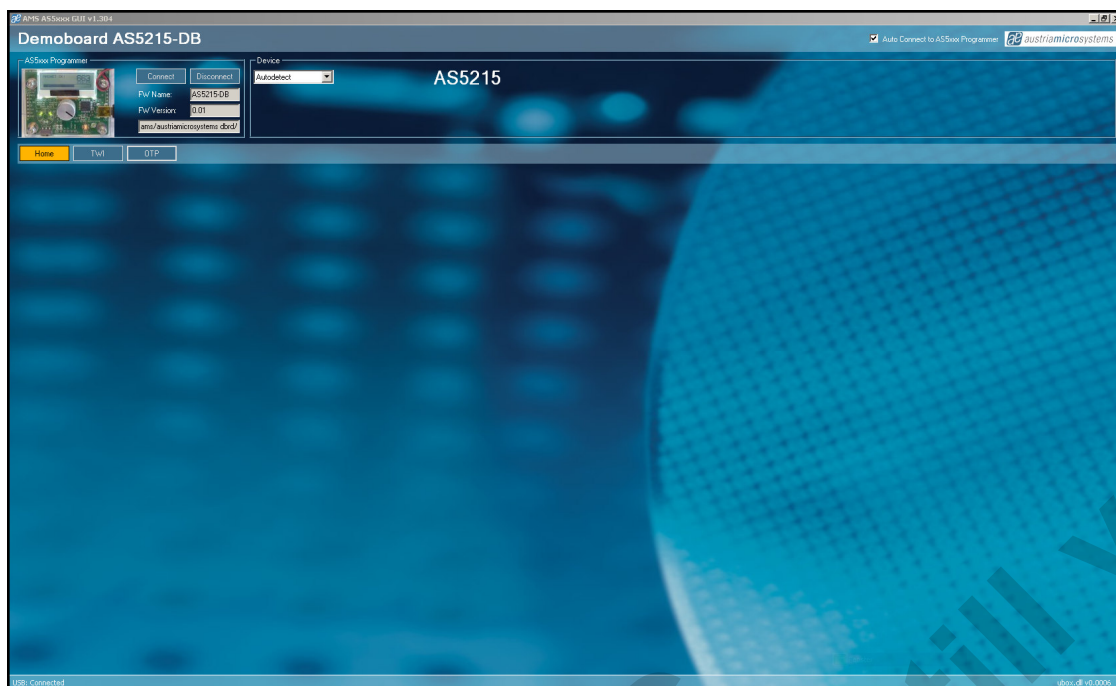

Figure 3: AS5000 GUI detected the AS5215 Demoboard
Figure 3 shows the main window of the GUI. On the top left corner, board information as firmware (FW) version and demoboard name declaration can be found.